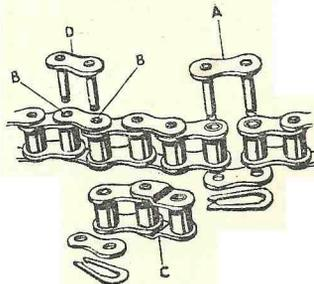
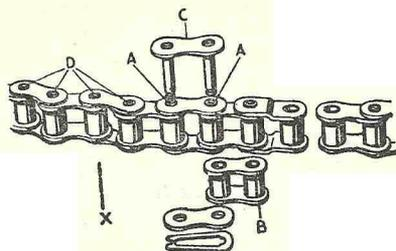

Fig. X8.
Fig. X9.
After a big mileage, the rear chain may have stretched so that no further adjustment is possible by the usual method. In this case it is possible to shorten the chain by one link or pitch, so increasing its useful life. First remove the single connecting spring link (A) securing the two ends of the chain, Fig. X8. If the chain terminates in two ordinary links as in Fig. X8 (in which case the chain will be an even number of pitches) extract the third and fourth rivets (B) from the end and replace the detached three pitches by a single connecting link (C). The connection is made with an additional spring link (D). If one end of the chain has a double cranked link, Fig. X9—in which case the chain will have an odd
If a roller or link has been damaged (X) Fig. X9, remove rivets (D), take out the damaged link and replace with one inner link, secured by two single connecting links.